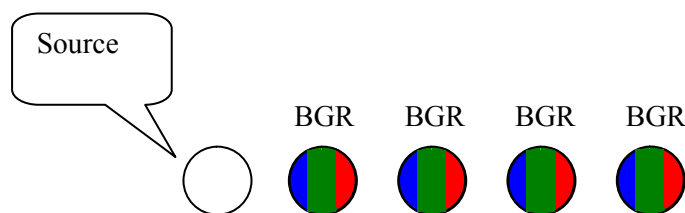
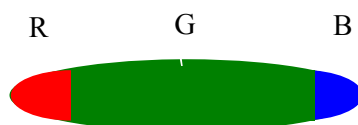
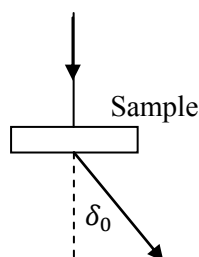

Figure 6: Faint pattern near the light source.
Figure 7: Bright pattern farther to the right from the light source.
Figure 8: The deflection angle  $\delta_0$ .
- d. (0.5 pts.) When a perpendicular white light beam is incident on the sample from one of its sides, the following faint pattern can be observed in the transmitted light, slightly to the right from the source (Figure 6). "R", "G" and "B" stand for red, green and blue respectively. Note: this pattern may be difficult to observe, and measurements on it are not required.
Further to the right you may observe a much brighter pattern (Figure 7):
- C. The patterns depicted in Figure 6 result from interference, while the pattern depicted in Figure 7 results from dependence of  $n$  on the wavelength.
- D. The patterns depicted in Figure 6 result from the dependence of  $n$  on the wavelength, while the pattern depicted in Figure 7 results from interference.
- e. (1.4 pts.) With the white light set up as in part (d), measure the deflection angle  $\delta_0$  of violet light (at the far blue end of the spectrum) for the dominant peak depicted in Figure 7. The deflection angle is defined in Figure 8. Record all intermediate measurements. Provide error estimates.